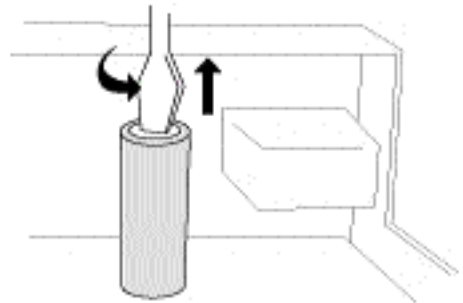

Figure 5 - Fuse location in the Power Supply and removal.
2. Check that the AC Detachable Power Cord is plugged into the Pre 1 Detachable Power Cord Socket (I) and is connected to a live source of AC power. For instance, if using a power bar, check that the bar is turned on.
- The AC power fuse is intact and has not blown. If the fuse has blown, the thin metal conductor will have melted and the glass may appear "smoked". If the fuse has blown, replace with a fuse of the same rating (1.5 Amp/250V fast-blo for 100 to 120 volt countries and .75 Amp/250V fast-blo for 200 to 240 volt countries). (See Figure 5.)